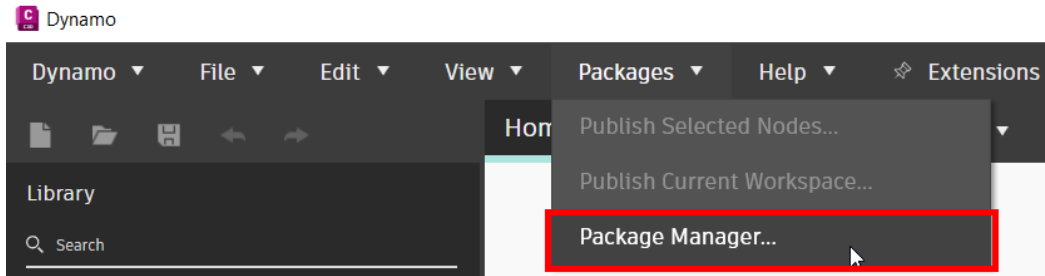

Figure 12.11 – Selecting the Package Manager option
3. Select the **Package Manager...** option (as shown in *Figure 12.11*).